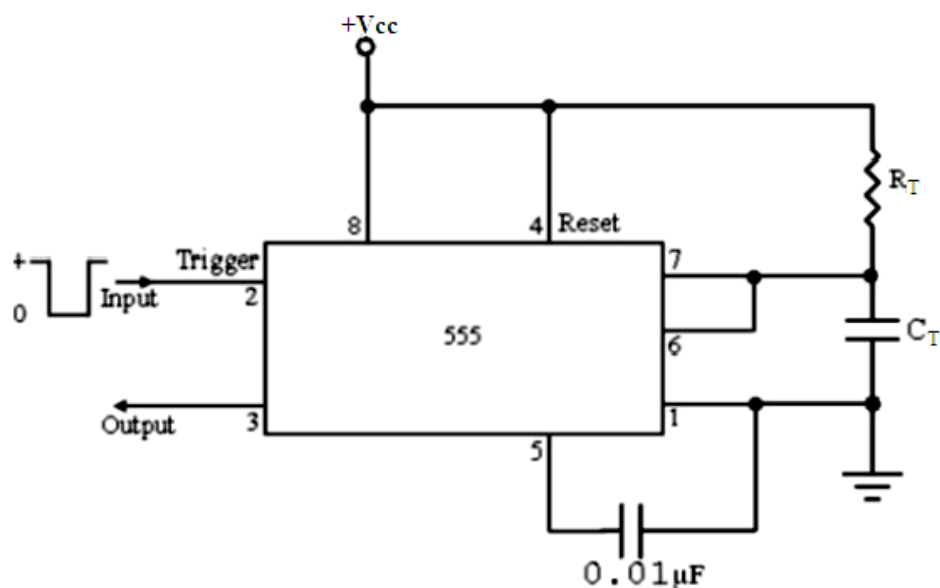

Figure 16.3: Circuit diagram of Monostable multivibrator using IC555
2. Connect the circuit as per the circuit diagram show in fig 16.3.